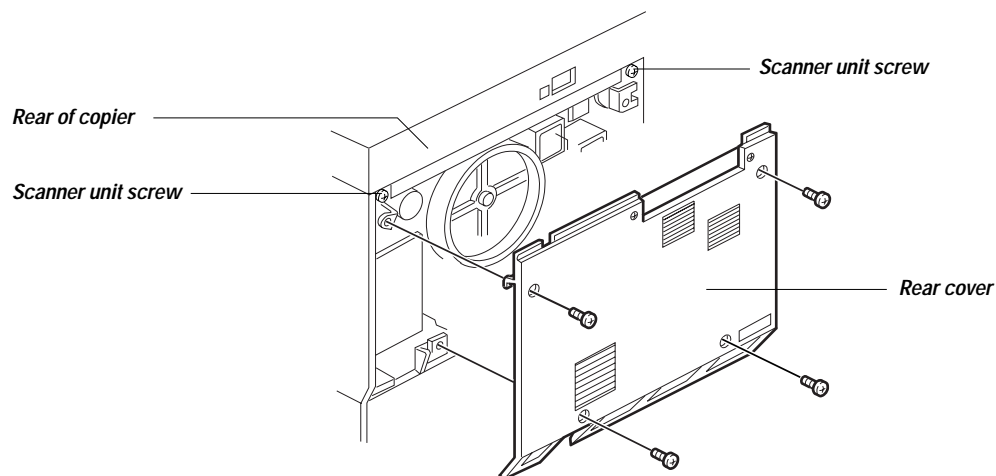

Figure 2-1 Removing the rear cover and scanner unit screws
5. *While you are at the rear of the copier, remove the two screws that attach the scanner unit to the copier (see Figure 2-1).*